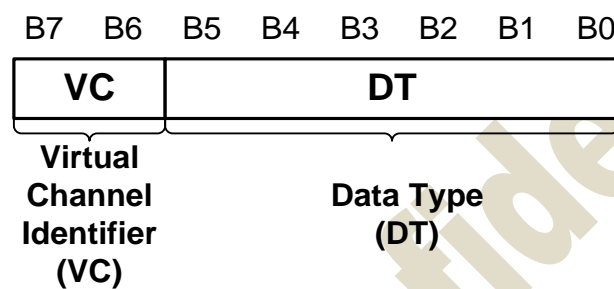

Figure 7.12: Data Identifier Byte
The first byte of any packet is the DI (Data Identifier) byte. Figure 7.12 shows the composition of the Data Identifier (DI) byte. DI[7:6]: These two bits identify the data as directed to one of four virtual channels. DI[5:0]: These six bits specify the Data Type.